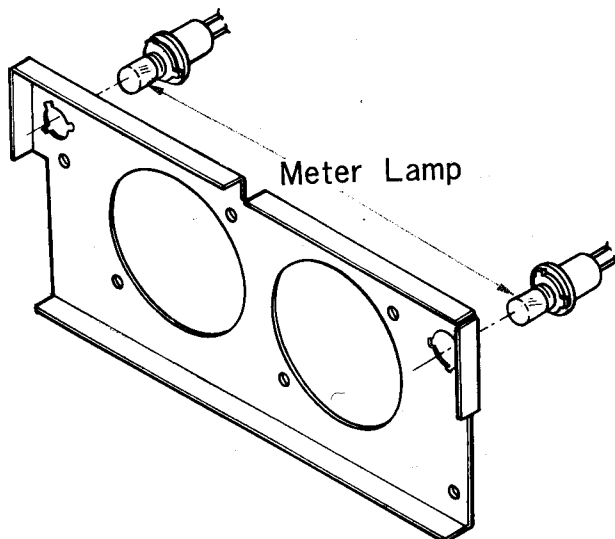

Fig. 2-6. Meter Lamp Replacement
- d. Turn the black plastic lamp socket clockwise (as viewed from the back of the panel) and pull out the socket. See Fig.2-6.